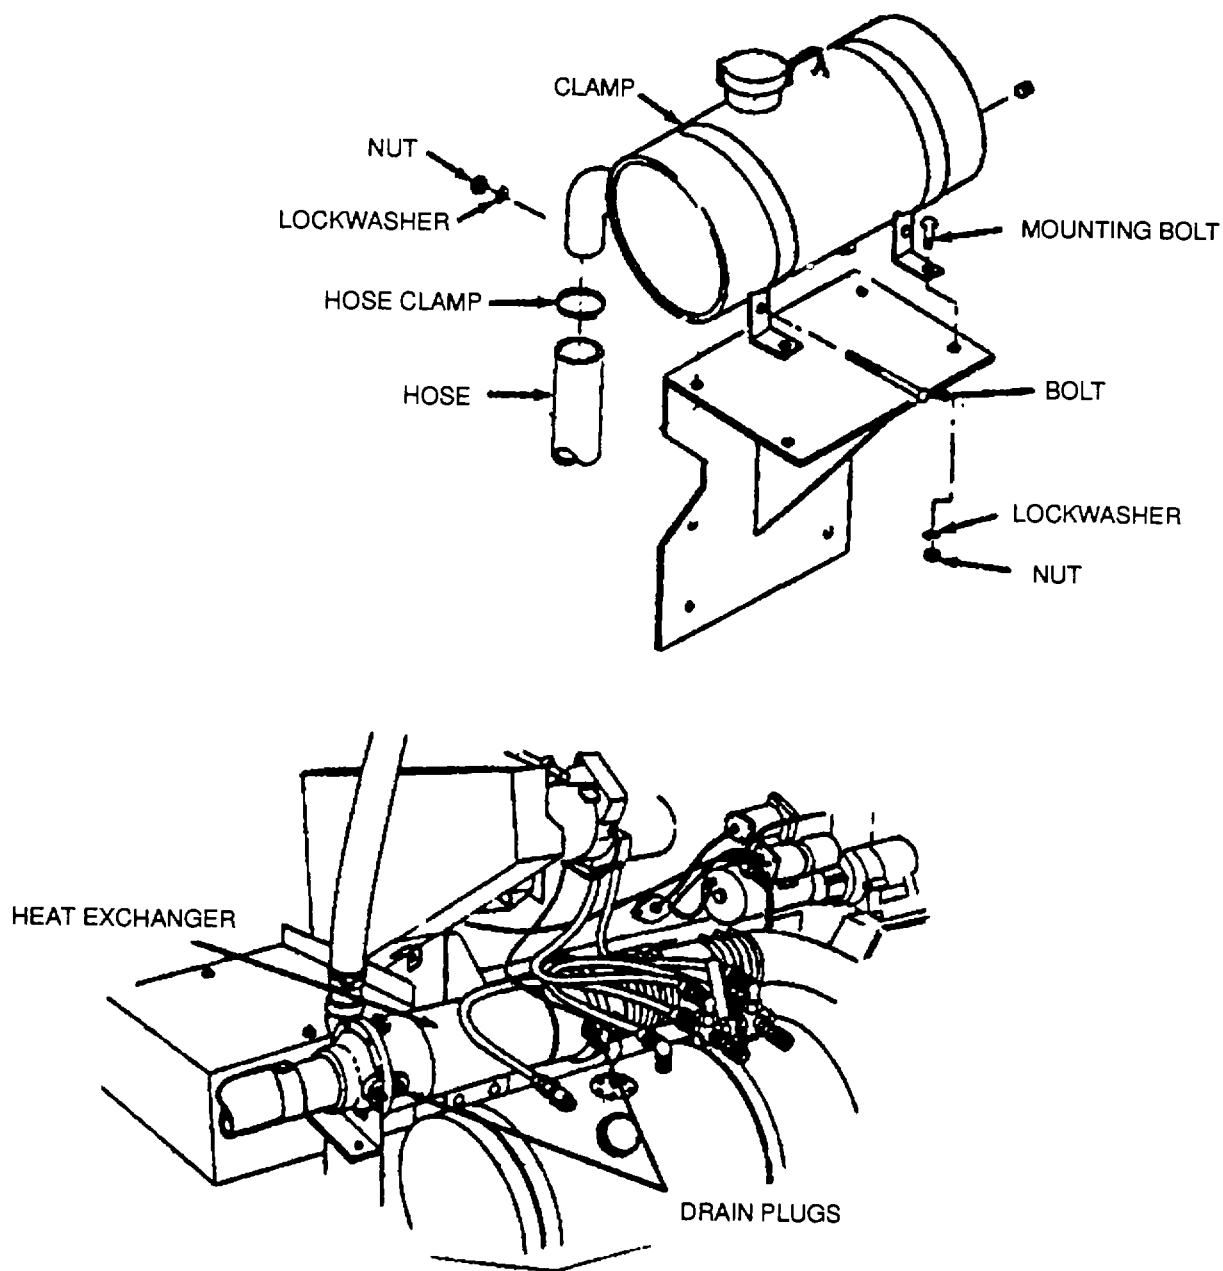

Figure 4-8. HP Pump Diesel Engine Cooling System.
- b. Remove engine block drain plugs and allow coolant to drain (Figure 4-8).